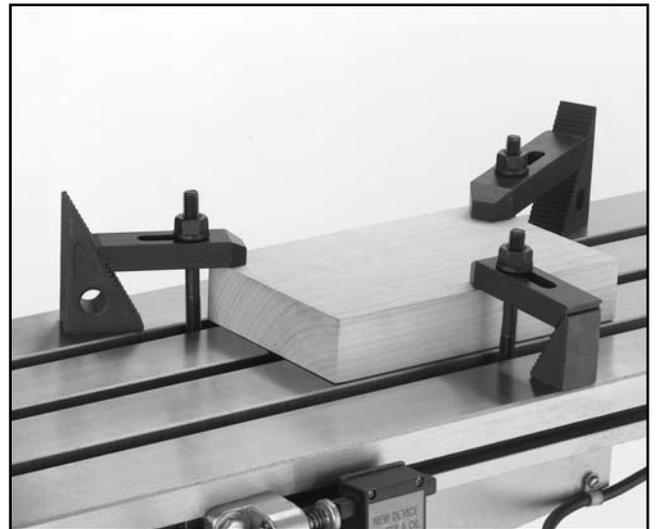

Figure 20. Three clamps holding workpiece.
- Always have a minimum of 3 clamping devices when securing the workpiece to the table as in Figure 20.